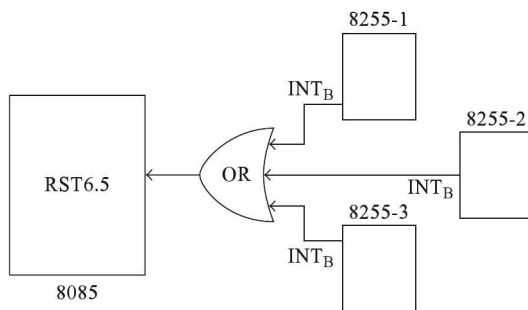

Fig. 23.1
In an 8085 microprocessor, there are five interrupt input pins. They are TRAP, RST 7.5, RST 6.5, RST 5.5, and INTR. If there are a maximum of five I/O devices that desire to perform interrupt driven data transfer, they can be connected to the five interrupt input pins. Now consider the case where there are more than five I/O devices that would like to perform interrupt driven data transfer. In such a case, on some interrupt pins more than one I/O device will have to interrupt. In fact, most microprocessors provide very few interrupt input pins. For example, Zilog Z-80, Motorola 6800, Intel 8086 have only two interrupt input pins. Thus an interrupt pin may be required to receive interrupt requests from several devices. Figure 23.1 shows a case where three I/O devices interrupt the 8085 using the RST 6.5 interrupt input.
In Fig. 23.1, the inputs to the OR gate are from Port B of 8255 PPI chips. Port B in these 8255 chips are assumed to be configured for mode 1 operation. The 8085 is interrupted when any one or more of the three inputs to the OR gate is active. It then branches to the interrupt service subroutine (ISS) at $6.5 \times 8 = 52 = 0034H$. Thus the branch to ISS at 0034H takes place immaterial of the source of the interrupt. In reality, the processor is required to branch to different subroutines based on the source of the interrupt. Thus in the ISS for RST 6.5 the processor has to identify from among the I/O ports connected to the RST 6.5 pin the I/O port that needs service. This process of identifying the port that needs service is called 'polling'. The subroutine that starts at 0034H is now called the interrupt level subroutine (ILS) for RST 6.5 instead of ISS for RST 6.5. Once the port that needs service is identified in the ILS, the processor performs a branch to the appropriate ISS.
2. If all the three inputs of the OR gate are active in Fig. 23.1, then in the ILS shown, device_1 is serviced first as device_1 is polled first. Thus the priority for the various devices connected on a single interrupt input pin is decided by the order in which they are polled. Similarly, if only device_3 is in need of service, the ILS first of all checks device_1 and device_2, finds that they are not in need of service, and only then it checks device_3 and starts servicing it. The priority thus gets fixed and cannot be altered.